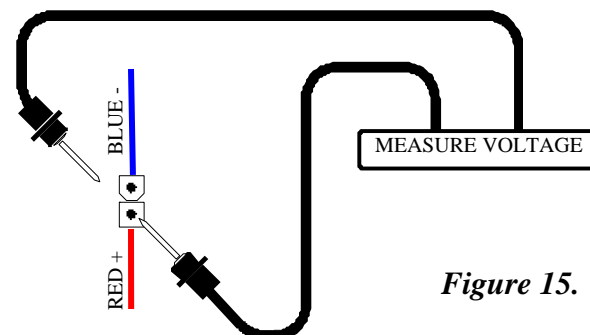

Figure 15.
11. Disconnect the red key switch connector harness (13).
12. Measure voltage across the two pins on the male connector (red and blue wires). See figure 15.